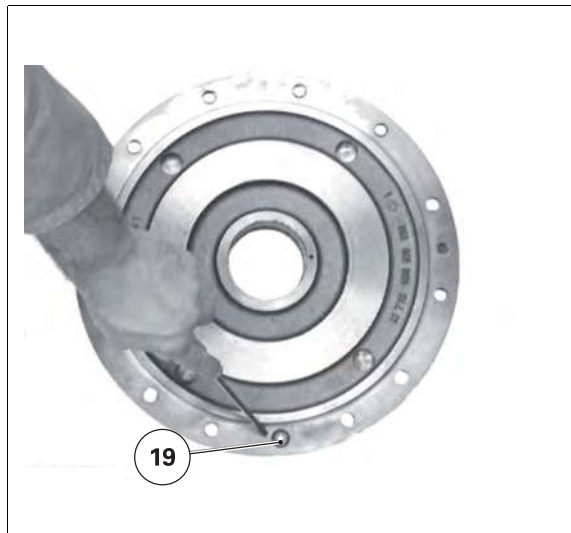

Fig. 12.
1. Place the Power Shuttle on a support positioned on the forward clutch fig. 12.
2. Fit the cover plate (26) on the bearing (57). Check that the snap ring (2) is present on the shaft (1).
3. Fit the cover plate (26) screws, after smearing them with Loctite 242 or equivalent. Tighten to a torque of 29 Nm (21 lbf ft) - 37 Nm (27 lbf ft).
4. Fit the friction washer (H), smeared with oil, on the clutch unit (G).
5. Refit the brake and clutch assembly (G) on the cover plate (26).